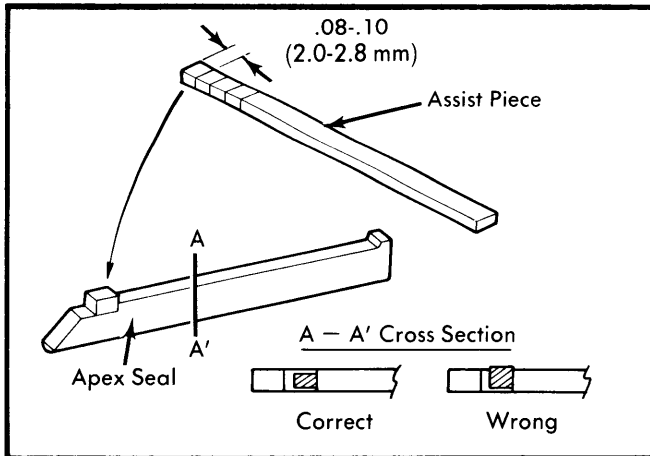

Fig. 19 Installing Assist Piece on Apex Seal
**NOTE** — Before installing apex seal, cut the assist piece with a knife to a length of .08-.10" (2.0-2.8 mm). Peel off paper and install assist piece on apex seal, Fig. 19.